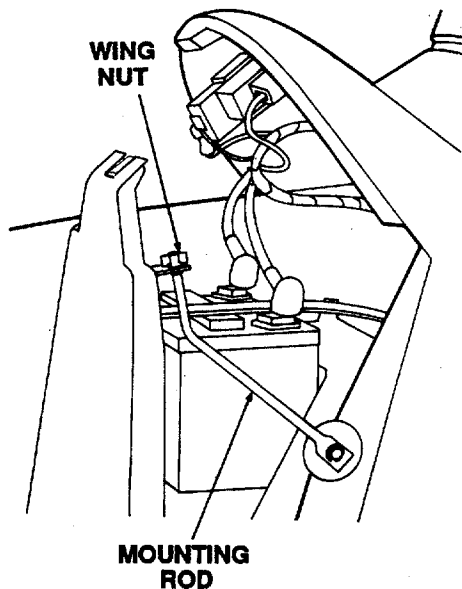

Figure 27
2. Remove the wing nut securing the LH mounting rod to the mounting tab on the left side of the bulkhead (Refer to Figure 27). Pull the rod downward from the bulkhead tab.
10. Rotate the mounting rod downward and insert through the bottom of the hole in the bulkhead mounting tab (See Figure 27).